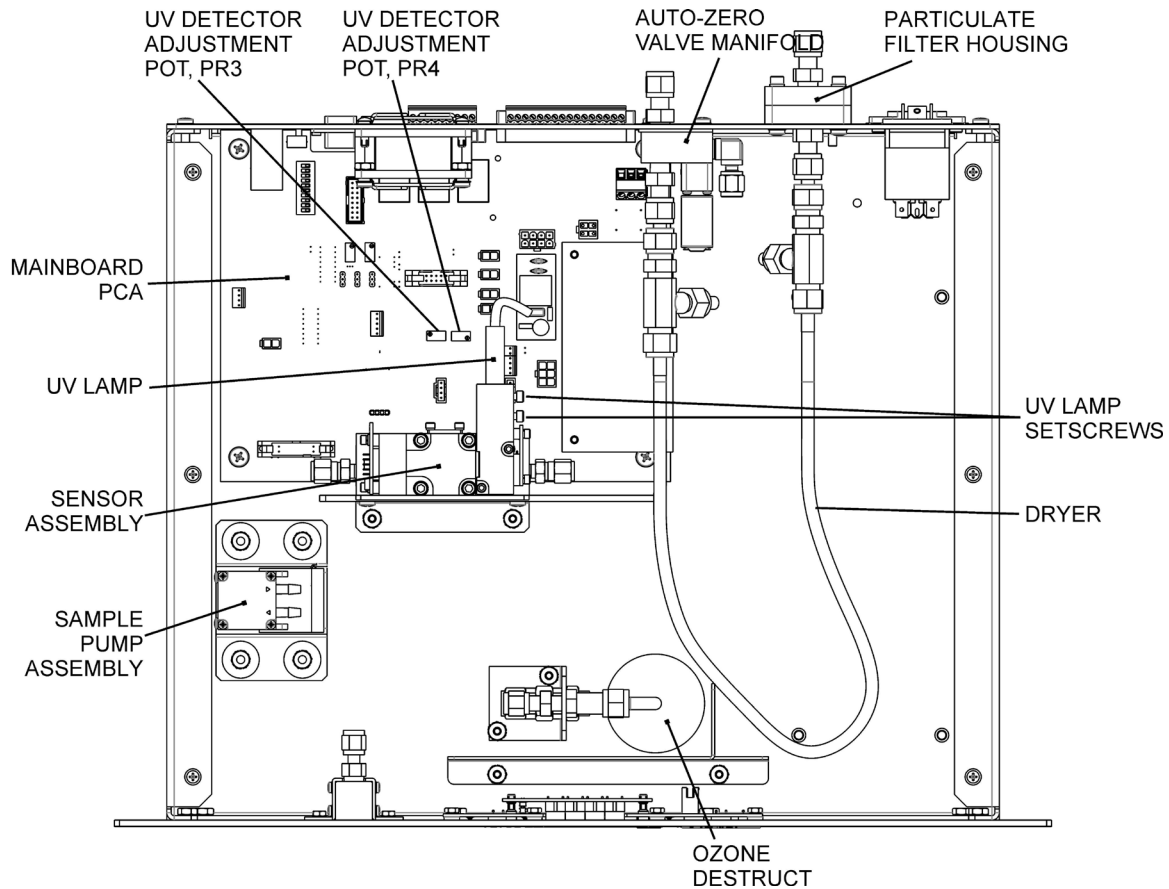
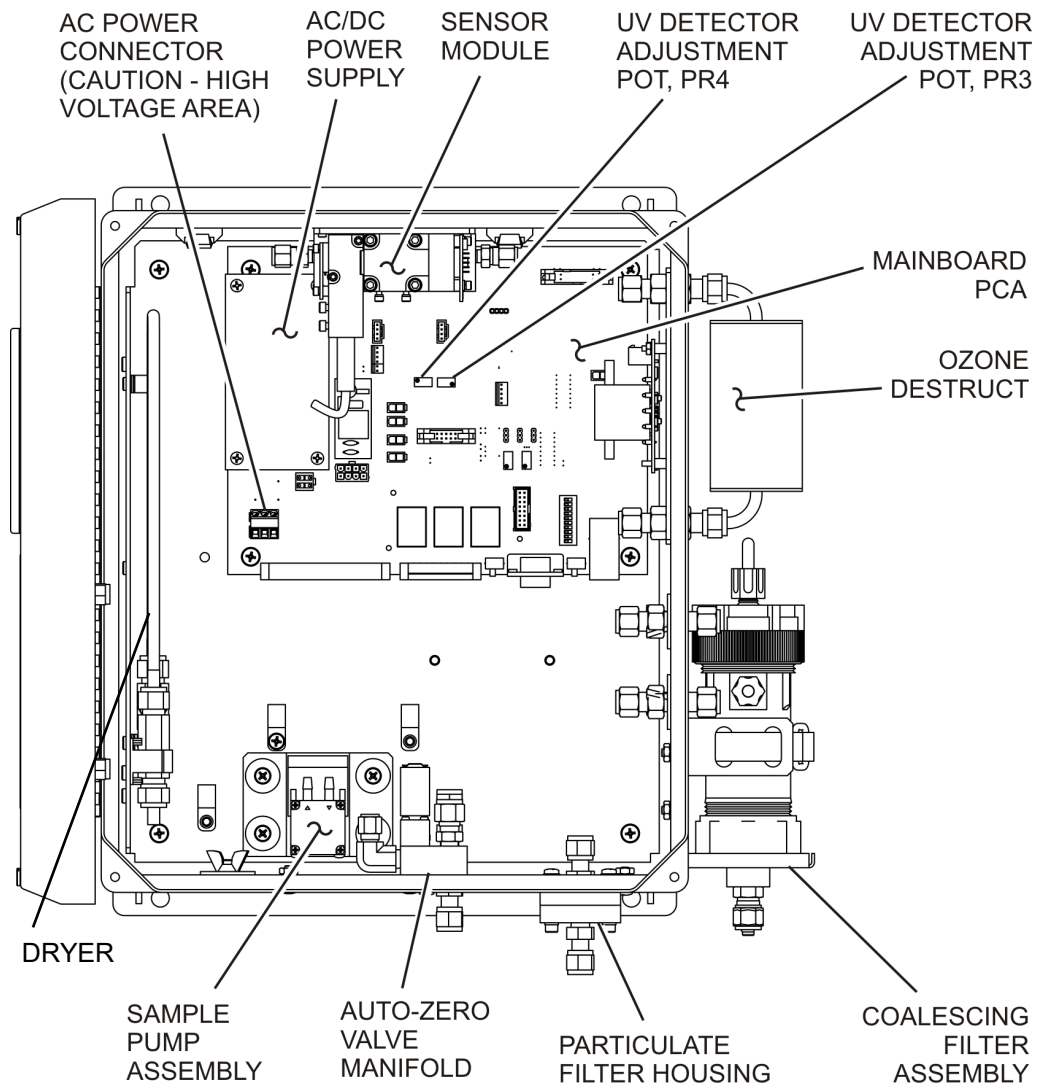

Figure 9-1: Instrument Layout, Rack Mount Configuration
Figure 9-2: Instrument Layout, NEMA Configuration
Figure 9-1 and Figure 9-2 show the internal layout of the 465M (rack mount and NEMA, respectively). These figures will be referenced in the procedures that follow.
2. Loosen the six screws from the top cover (Rack Mount Configuration, see Figure 9-1) or open front panel (NEMA Configuration, see Figure 9-2.)
4. Locate the particulate housing filter on the rear panel (Rack Mount Configuration, see Figure 9-1) or the bottom panel (NEMA Configuration, see Figure 9-2.)
3. Locate the Reference UV Detector adjustment pot, PR3, on the Mainboard PCA (see Figure 9-1 or Figure 9-2.)
6. Locate the Measure UV Detector adjustment pot, PR4, on the mainboard PCA (see Figure 9-1 or Figure 9-2.)
9. If the required adjustment cannot be achieved by adjusting the UV Detector pot alone, then additional adjustment can be made by loosening the two UV lamp setscrews on the UV lamp housing (see Figure 9-1 or Figure 9-2) and rotating the lamp. Rotate the lamp very slowly while observing the REF or MEAS value on the display. Make sure the lamp does not pull out and remains seated in the housing while it is being rotated. Re-tighten the two setscrews when a desired point has been reached.
3. Loosen the two UV lamp setscrews on the UV lamp housing (see Figure 9-1 or Figure 9-2.)
3. Locate sample pump assembly (See Figure 9-1 or Figure 9-2.)
3. Locate the auto-zero valve (See Figure 9-1 or Figure 9-2.)
7. Remove the two (2) mounting screws using a #2 Phillips screwdriver. Note that there are four screw heads visible on the top of the valve body, only two (2) of these should be removed. Use the new valve as a reference to determine which two screws need to be removed.
3. Locate the Mainboard PCA (see Figure 9-1 or Figure 9-2.)